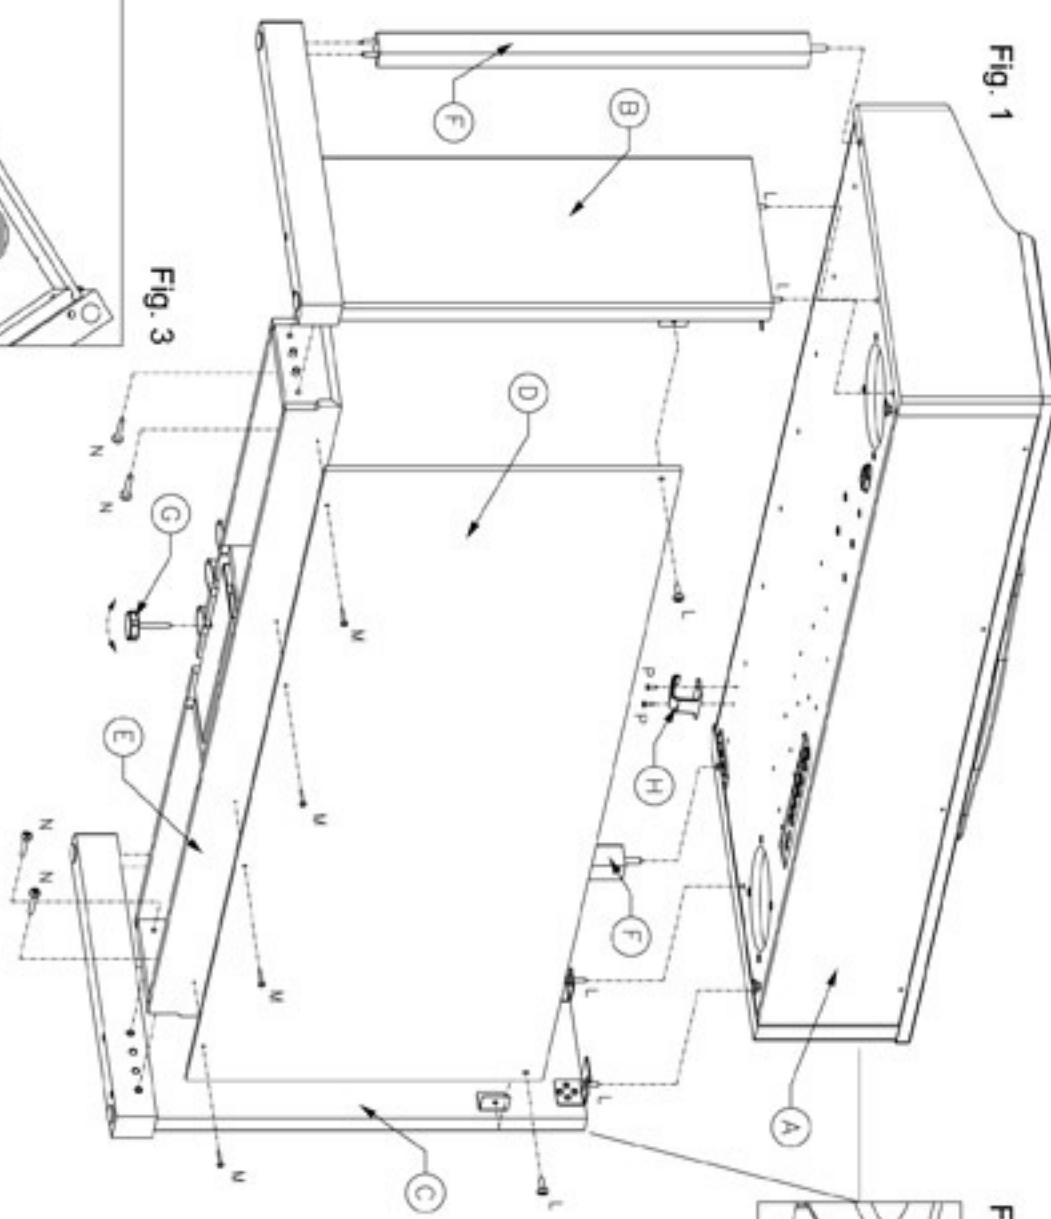
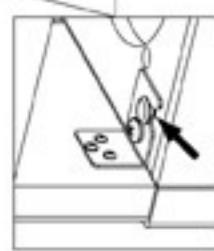

Fig. 1
Fig. 2
- 3)** Fix on pedals group the pedal clog (G) as shown in Fig.1.
- 4)** Fix the right leg (B) to crossbar (E) with screws (N).
- 5)** Fix the left leg (C) to crossbar (E) with screws (N).
- 6)** Fix the rear panel (D) to the crossbar (E) with screws (M) and to the legs (B) and (C) with screws (L) as shown in Fig.1.
- 7)** Insert the two Chippendale bars (F) on the two legs (B) and (C) as shown in Fig.1.
- 8)** Place the piano cabinet (A) on stand, fix it by using the 4 hand wheel (L) as shown in Fig.1 by paying particular attention to the position of the hook, as shown in Fig.2.
- 9)** Fix the headphone hang (H) whit screws (P) as Fig. 1